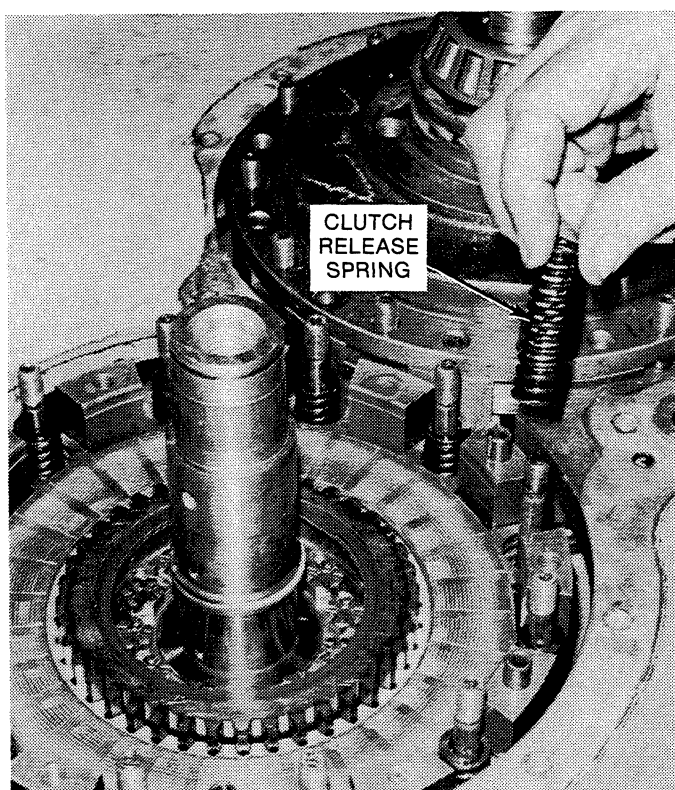

Figure 6-15. *Removing or Installing Clutch Release Springs.*
7. Remove the clutch release springs and release spring sleeves. See Figure 6-15.